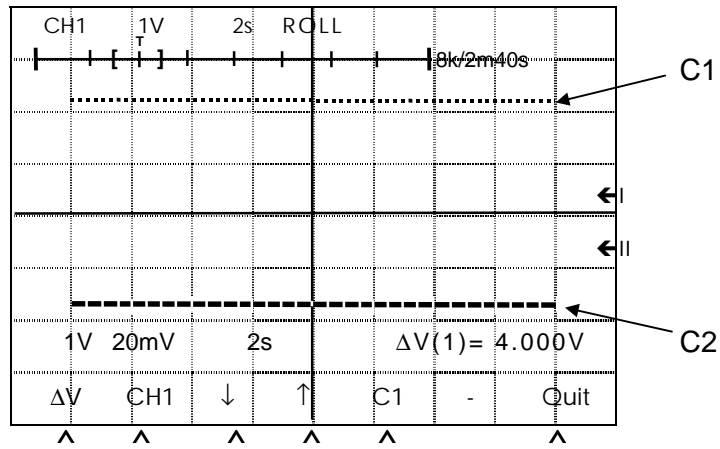

Figure 28: Measurement using cursors (CURS)
Press on the CURS key (45). A menu specific to the cursors appears at the bottom of the screen (see figure 28).